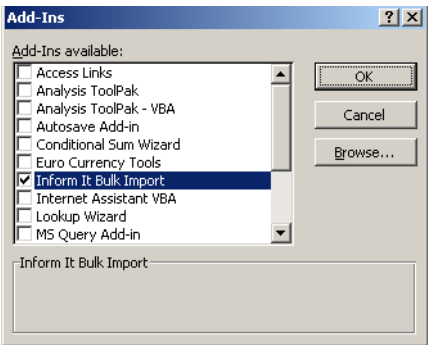

Figure 194. Bulk Import Added
- 8. Click **OK**. This adds the Bulk Import add-in to the Add-ins tool, Figure 194.
- 9. Verify that the **Inform IT Bulk Import** box is checked in the Add-ins tool, Figure 194, then click **OK**.